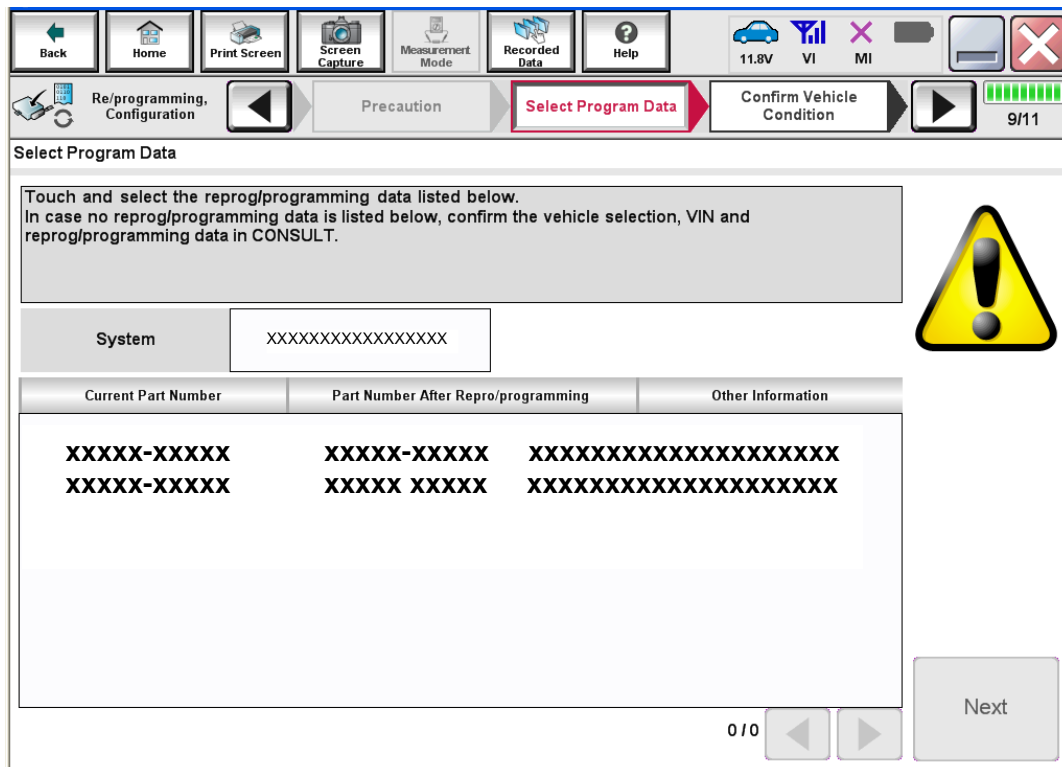

Figure 10
- If more than one new P/N is available, the screen in Figure 10 displays.